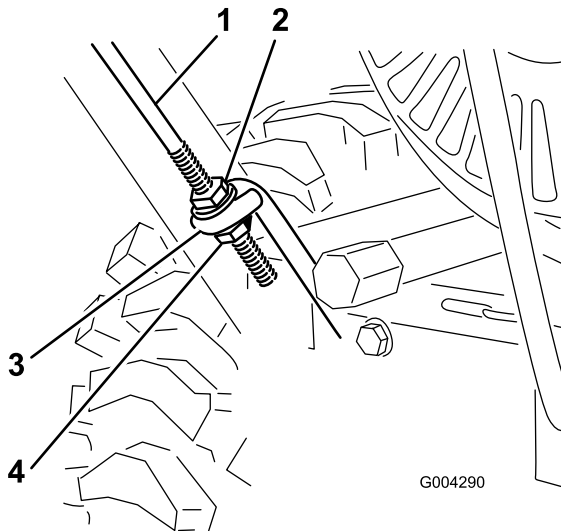

Figure 4
3. Thread a flange nut (not the flange locknut) with the flange down onto the traction rod attached to the left side of the handle (Figure 4).
4. Position the left side of the handle against the side of the machine and insert the end of the traction rod through the lower traction rod loop (Figure 4).
1. Thread the flange locknut (flange side up) onto the bottom of the traction control rod, below the loop in the lower traction rod (Figure 4).